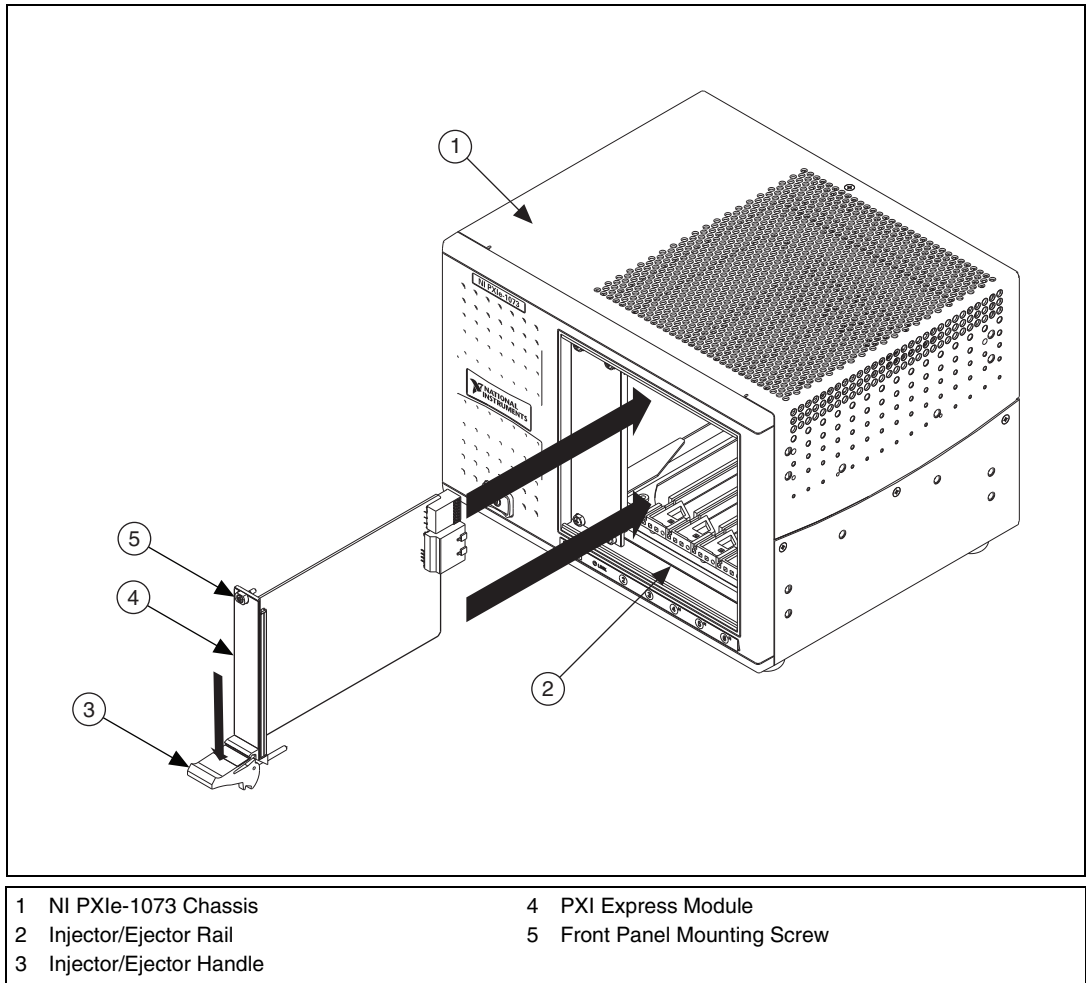

Figure 2-5. Installing PXI or CompactPCI Modules
4. Install a module into a chassis slot by first placing the module card PCB into the front of the card guides (top and bottom), as shown in Figure 2-5. Slide the module to the rear of the chassis, making sure that the injector/ejector handle is pushed down as shown in Figure 2-5.